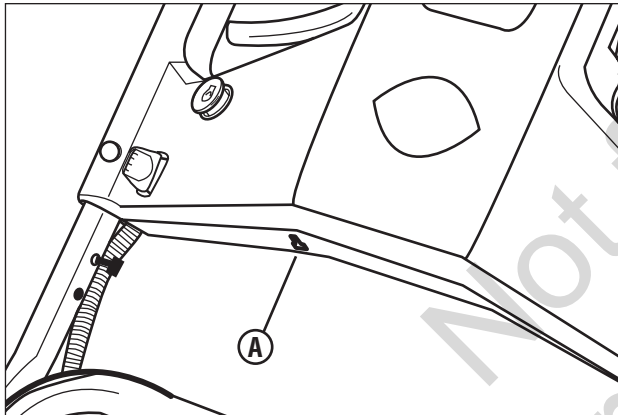

Figure 11: Battery charge port
1. Using the supplied charger, plug the charger connector into the battery charge port (**A, Figure 11**). Plug the charger into a wall outlet and charge the battery for 12-24 hours. (Longer periods will not damage the battery.)